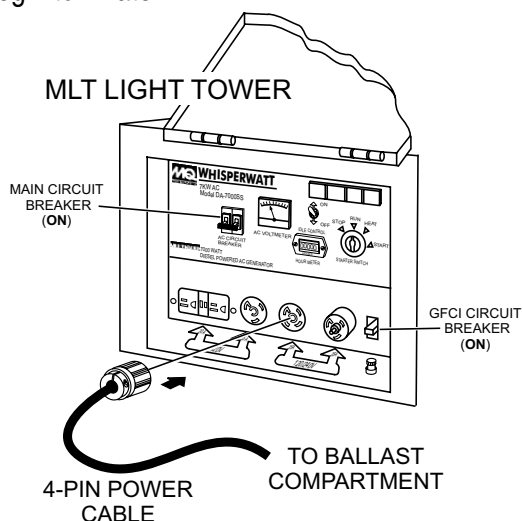

Figure 32. Main, GFCI Circuit Breakers (ON/MLT)
4. Once, the engine has started, place the GFCI and main circuit breaker switches (Figure 32) on the MLT front control panel in the **ON** position. The balloon should begin to inflate.